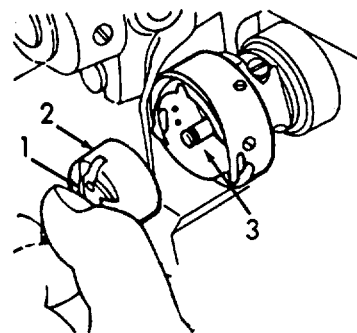

Figure 2-25. Bobbin Case, Removal.
- (4) Refer to Figure 2-25. Lift up the bobbin case latch (1) and remove the bobbin case (2) from the rotary-sewing hook (3).